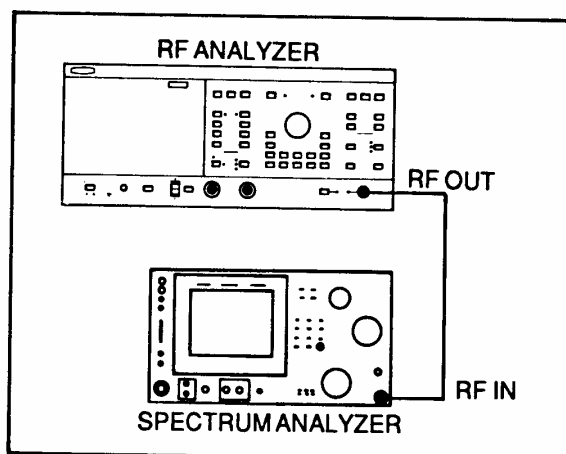

Figure 5-5. Test Setup for Output Signal Test
1. Setup the test equipment as shown in Figure 5-5, and turn the equipment on.